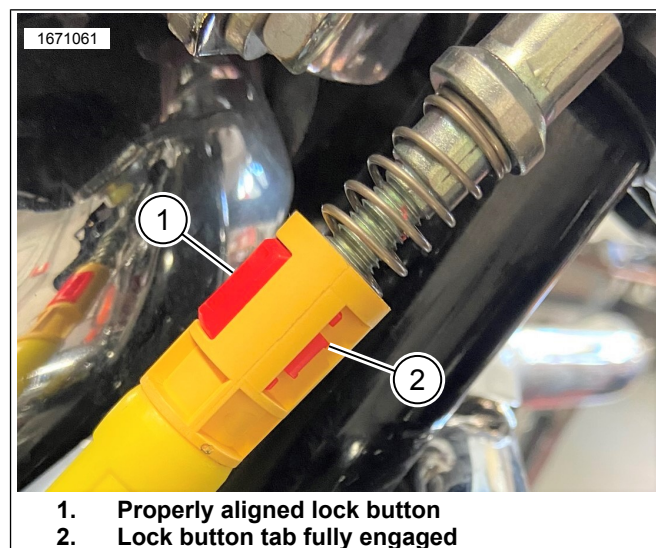
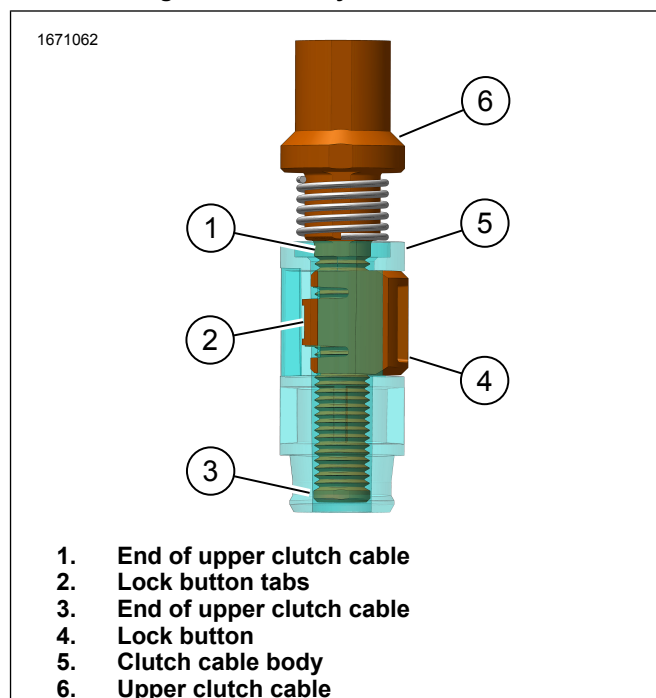

Figure 7. Correctly Installed Button
Figure 8. Proper Button Engagement
2. See Figure 7. A properly aligned lock button (1) should be semi-flush with the rest of the cable clutch assembly.
3. The lock button tabs should be fully engaged (2) to the body.
4. See Figure 8. Make sure the lock button (4) is installed between the ends of upper clutch cable (1, 3).